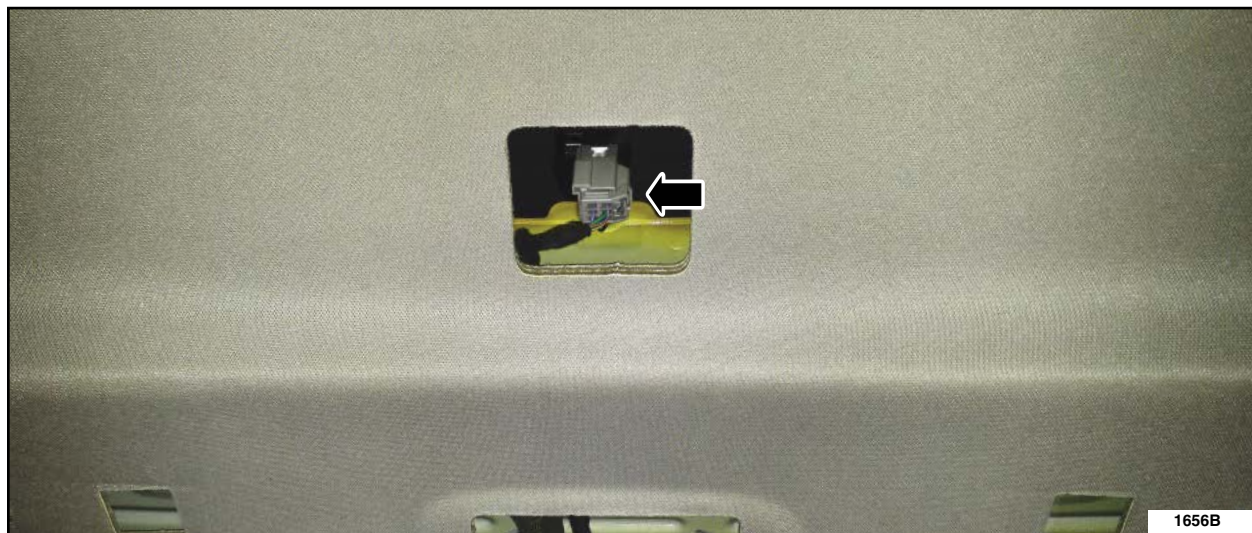

FIGURE 1
2. Disconnect the panoramic roof panel blind motor connector. See Figure 1.
20. Reconnect the panoramic roof panel blind motor connector. See Figure 1.